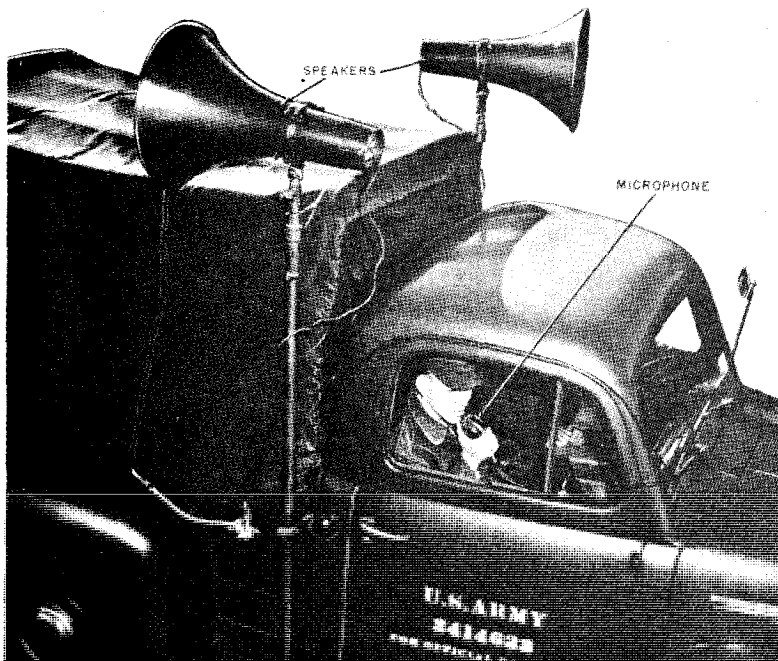

Figure 15. Speakers mounted on truck.
*b. Public Address Truck.* When a truck is to be used frequently as a public address truck the assembled speakers may be mounted as shown in figure 15. Be sure that all clamps and mounting bolts are tight before mounting the speaker.
When the microphone is used in a vehicle it is not usually mounted on the microphone stand. Use the microphone as a hand microphone (fig. 15). Be sure that the microphone is fastened so that it will not fall or be dropped.